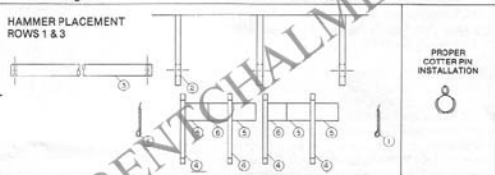

Fig. 3A
- Replace Hammers and Spacers as shown in Figures 3A and 3B